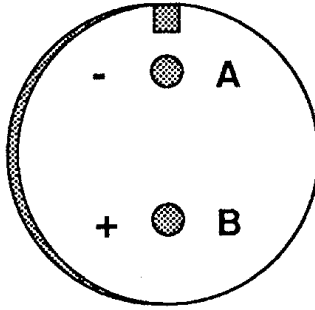

Figure 1. DAU 28 VDC connector.
- b. Connect dc power supply to DAU **28VDC** connector; + to pin B and - to pin A (fig. 1).